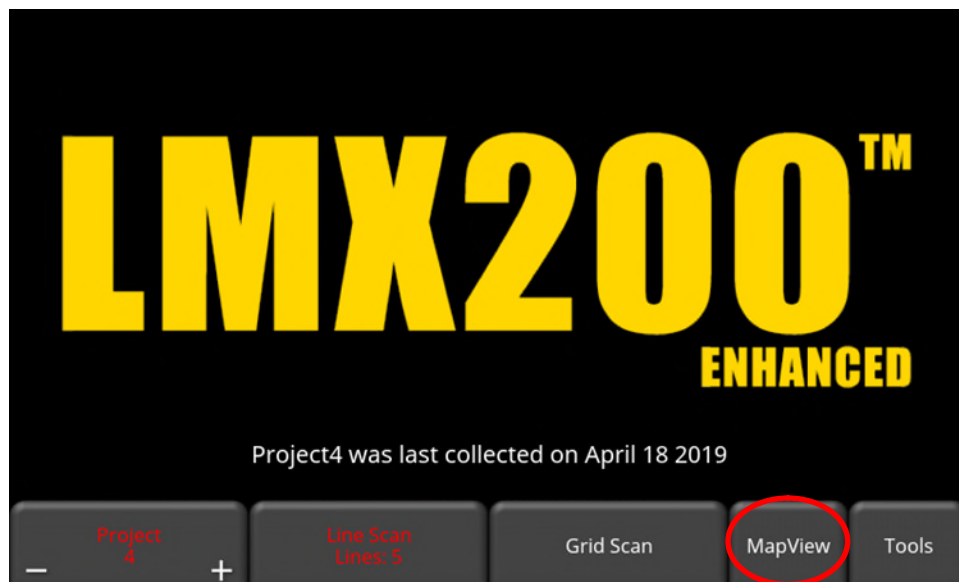

Figure 9-1: Accessing MapView from the main screen
- From the main screen (Figure 9-1: Accessing MapView from the main screen). MapView is *project* based, meaning it will display all lines and grids that are present in a given project.